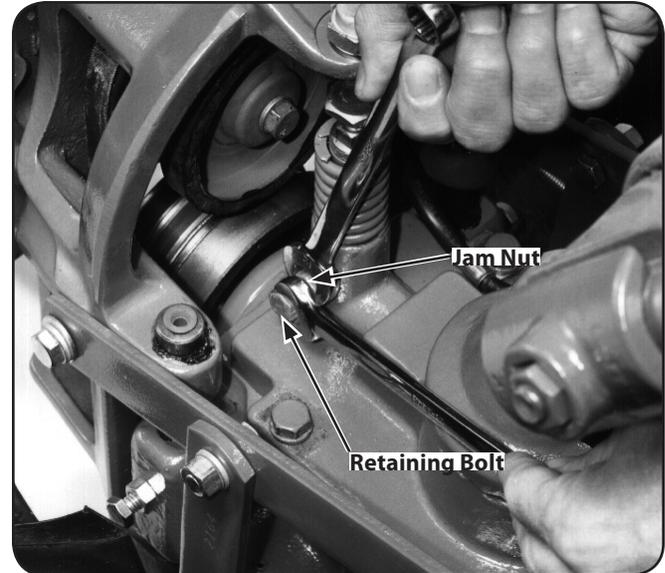

**Figure 6-21**
- Use your left hand to hold the Wheels/Tines/PTO Drive Lever up in REVERSE, while briefly pulling out engine recoil starter. The reverse disc should turn the lower pulley. See Fig. 6-21. If not, or it requires a lot of pressure to hold the lever up in REVERSE, then the reverse adjustment bolt must be adjusted downward. When correctly adjusted, the Wheels/Tines/PTO Drive Lever should pop out of reverse when the lever is released, but not require exceptional effort to hold it up in reverse position.